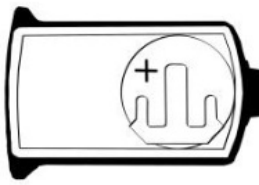

Figure 2
3. Replace with a CR2032 battery ensuring the + side of the battery faces up (fig.2)